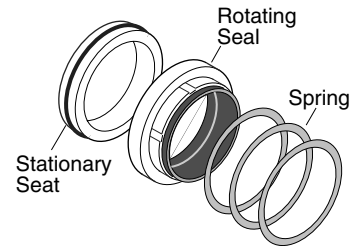

Figure 2
Refer to Figure 2 for Mechanical Seal parts identification. Refer to exploded view, Page 12, for Key No. references.
1. **NOTICE:** Seal faces are highly polished and lapped. Handle with care. Any mar, nick or scratch on seal face will cause it to leak. BE SURE to install with polished faces toward each other (see Figure 2).